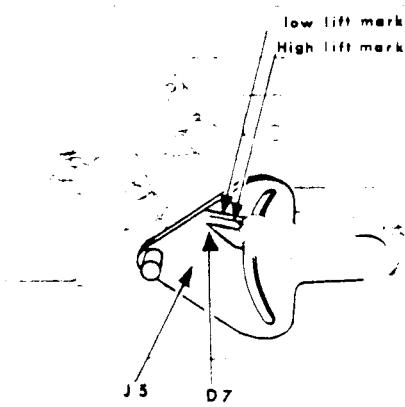
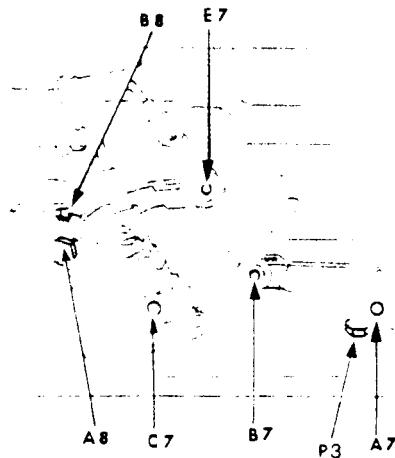
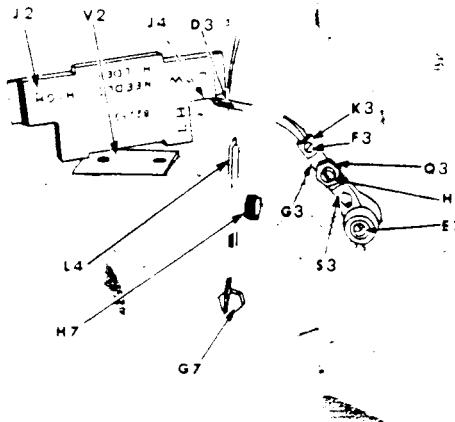

Fig. 39. To Position Gauge 165253.
Fig. 40. To Position Gauge 165253 - Cont'd.
Fig. 41. Adjustments.
Install gauge J5 (Fig. 39, Page 21) with threaded pin in looper (right hand) driving shaft hole (A7-Fig. 40) and the (2) remaining pins in holes B7 and C7 (Fig. 40).
When looper or spreader carrier is at its highest position, indicator (D7-Fig. 39) should be at the upper line on gauge for low-lift machines, (Nos. 460/12, 460/13, 460/14, 460/16, 460/20, 460/22). For high-lift machines, (Nos. 460/15 and 460/21) looper or spreader carrier is at its highest position when indicator D7 is at lower line on gauge.
To move right looper towards right, first loosen set screw N3 Fig. 41 two or three turns, then loosen clamping screw M3 Fig. 41 just enough to allow movement of looper assembly.
To move right looper towards left, first loosen set screw P3, Fig. 40 two or three turns.
When correct setting is obtained securely tighten clamping screw M3 Fig. 41, and then carefully tighten the set screws N3 Fig. 41 and P3 Fig. 40 an equal amount so that looper position is not disturbed.
Note: These allowances are possible provided the right hand looper carrier connecting link hinge pin E7 Fig. 41 is in contact with machine frame wearing plate. After each adjustment is made to eliminate looper side-wise play, the hinge pin set screw must be securely tightened with Allen Key No. 81440.
Place gauge J2 firmly upon throat plate seat V2 with end marked "LOW" toward needle, as shown in Fig. 41, Page 21.
Note: When installing a right looper (or spreader), loosen nut Q3, Fig. 41 and turn screw H3 anti-clockwise to align the screwdriver slot in head of screw H3 with centre-line of looper carrier S3, as shown in Fig. 41. Then loosen screw F3. Place collar K3 on looper shank and insert right looper in looper holder G3, as shown in Fig. 41.
Loosen screw F3 and nut Q3, Fig. 41
Right looper (or spreader) D3 should pass just behind left looper head and in front of needle; brushing lightly on needle. Additional adjustment for left to right position behind left looper head is provided by the hexagon head screw G7 Fig. 41.
Loosen screw H7 Fig. 41 and move Knife (stationary) L4 Fig. 41 upwards. Loosen hexagon head screw G7 and move screw up or down in the slot as required. Recheck looper (or spreader) settings and carefully reposition knife L4 and re-tighten screws H7 and G7, Fig. 41.
This setting can be secured by loosening nut A8 Fig. 41 and carefully turning in position screw B8 to make slight contact with the hexagon head screw G7, Fig. 41 Retighten nut A8, Fig. 40.
Loosen nut Q3, Fig. 41.